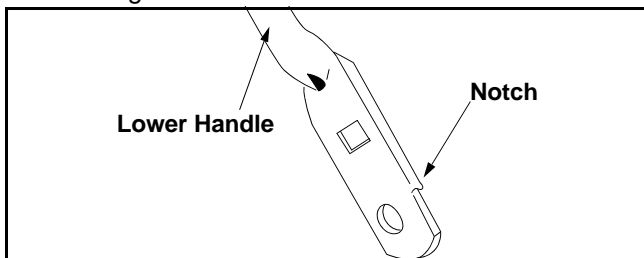

Figure 12
- Turn lower handle around so the notch on the bottom of the lower handle is facing forward. See Figure 12.